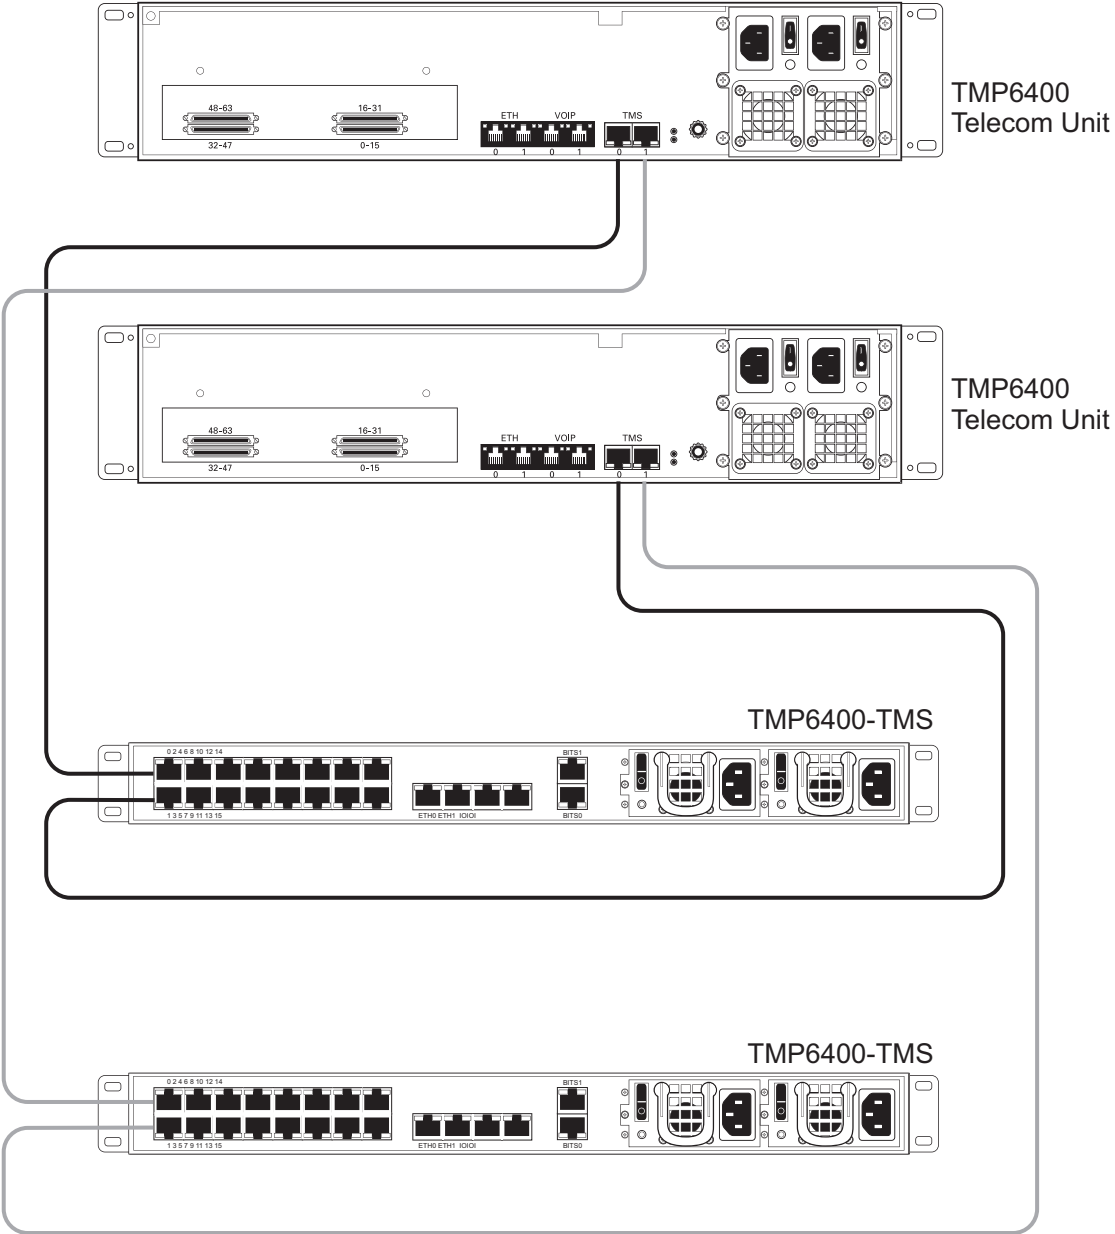

Figure 2.27 Example of Interconnecting 2 TMP6400 Telecom Units to an active and standby TMP6400-TMS
1. Start with the TMP6400 Telecom Unit at the topmost position of the equipment rack and connect a CAT7 shielded Ethernet crossover cable to the TMS0 connector at the rear of the TMP6400 Telecom Unit, figure 2.27 on page 37. Connect the other end of the same CAT7 cable to the first port of the first TMP6400-TMS.
2. If your system employs a second TMP6400-TMS, connect a second CAT7 shielded Ethernet crossover cable to TMS1 at the rear of the TMP6400 Telecom Unit, figure 2.27 on page 37. Connect the other end of the same CAT7 cable to the first port of a second TMP6400-TMS.